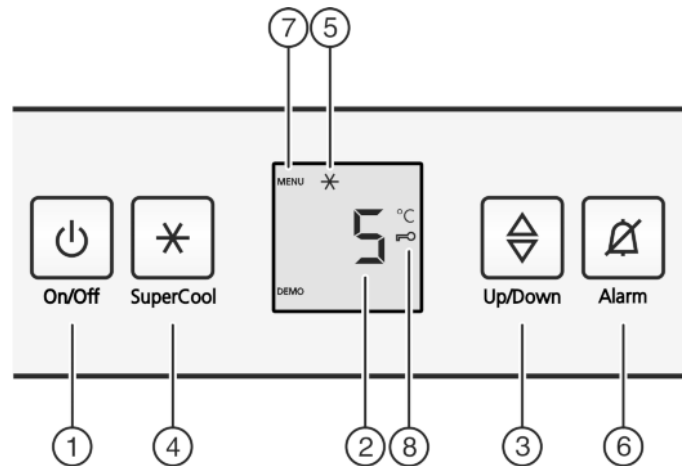

Fig. 2
- ▶ Press the On/Off button Fig. 2 (1).
- ▶ Press the SuperCool button *Fig. 2 (4)* for about 5 seconds.
- ▷ The Menu symbol is shown on the display, *Fig. 2 (7)*.
- ▶ Confirm briefly with the SuperCool button *Fig. 2 (4)*.
- ▷ The child lock symbol, *Fig. 2 (8)*, lights up on the display.
- ▶ Briefly press the On/Off button *Fig. 2 (1)*.
- ▶ Press alarm button *Fig. 2 (6)*.
- ▶ Call up temperature function: press the setting button *Fig. 2 (3)*.
- ▶ Change the temperature in 1 °C steps: Press the setting button *Fig. 2 (3)* until the required temperature is indicated in the temperature display.
- ▶ Briefly press SuperCool button *Fig. 2 (4)*.
- ▷ The SuperCool Fig. 2 (5) symbol lights up in the display.
- ▶ Briefly press SuperCool button Fig. 2 (4).
- ▷ The SuperCool symbol Fig. 2 (5) goes out in the display.